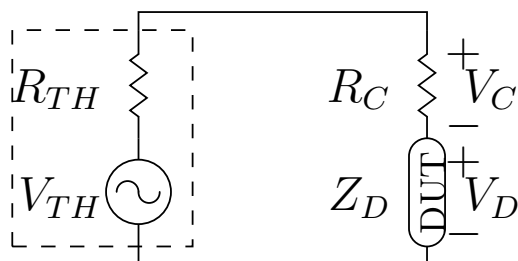

Figure 2: Setup for testing impedance.
2. Breadboard the circuit drawn in figure 2 for testing each element. Use the capacitor as the first device under test (DUT). Note that